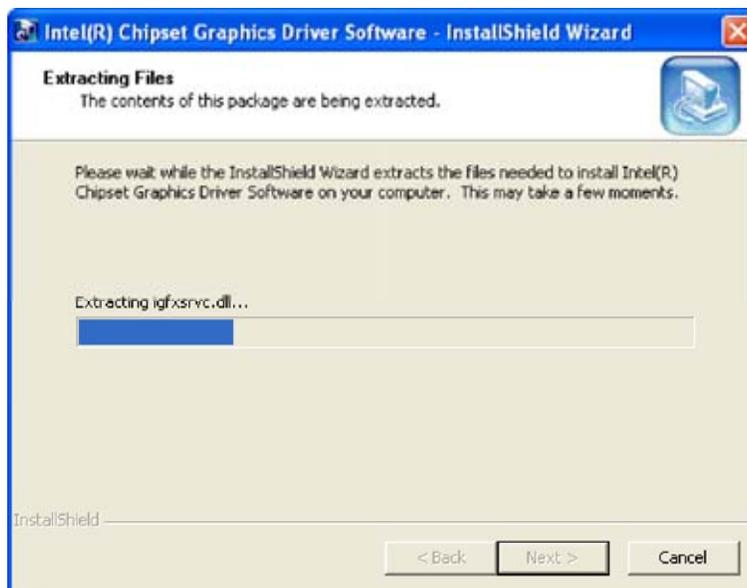

Figure 6-10: VGA Driver Setup Files Extracted
Step 24: The installation files are extracted. See Figure 6-10.